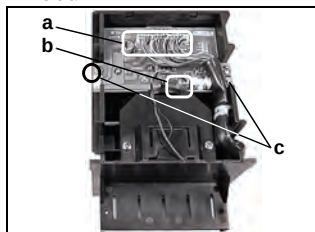

Figure 3-8 Freeing the Lower Sensor Board
11. Remove the Lower Sensor Board by disconnecting the 30-pin board connector (See Figure 3-8 a), and the 2-pin connector coming from the motor (See Figure 3-8 b).
12. Remove the two (2) screws shown in Figure 3-8 c.